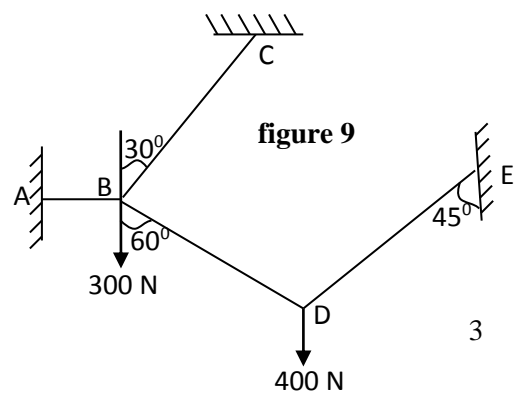

figure 9
- (c) A system of connected flexible cables shown in **figure 9** is supporting two vertical forces 300 N and 400 N at points B and D. determine the forces in various segments of the cable. **07**